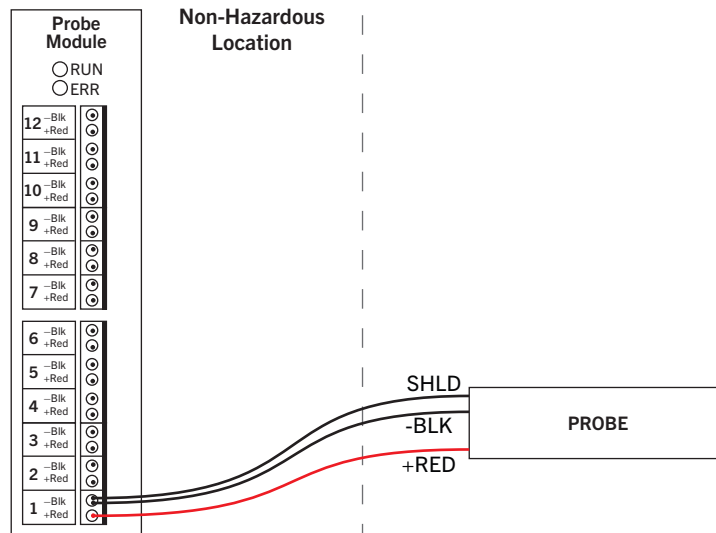

Figure 9 – Probe Module Wiring
1. Check Wiring. Ensure that the Red, Black and Shield wires are connected to the correct terminals on the ATG. There should be two connections in the junction box, (refer to figure 9).